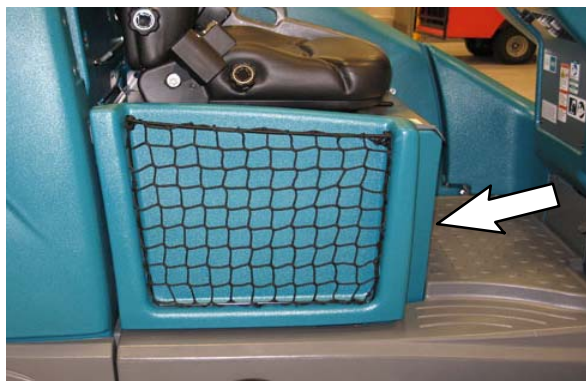

FIG. 1
5. Remove the seat shroud from the machine. Set the seat shroud and hardware aside. (Fig. 1)